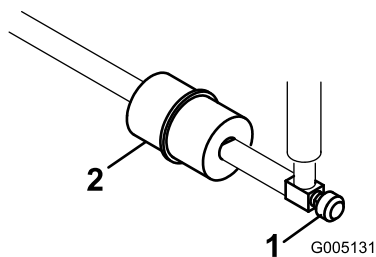

Figure 47
An in-line filter is incorporated into the fuel line between the fuel tank and carburetor (Figure 47). Be sure the arrow on the filter is pointing away from the fuel tank.
1. Close the fuel shut off valve, loosen the hose clamp on the carburetor side of filter, and remove the fuel line from the filter (Figure 47).
2. Place a drain pan under the filter, loosen the remaining hose clamp and remove the filter (Figure 47).